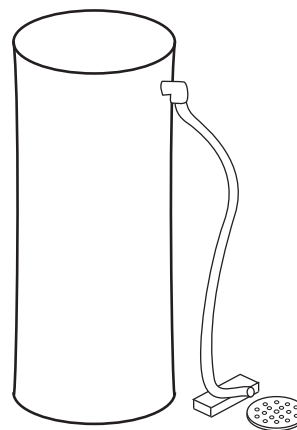

Figure 10 Brine Tank Drain
2. Insert the overflow fitting (not supplied) into the tank and tighten with the plastic thumb nut and gasket as illustrated in Figure 10.
Note: Do not elevate the overflow line higher than 3 inches (7.6 cm) below the bottom of the overflow fitting. Do not tie into the drain line of the control unit. The overflow line must be a direct, separate line from the overflow fitting to the drain, sewer, or tub. Allow an air gap as in the drain line connection, Figure 10.